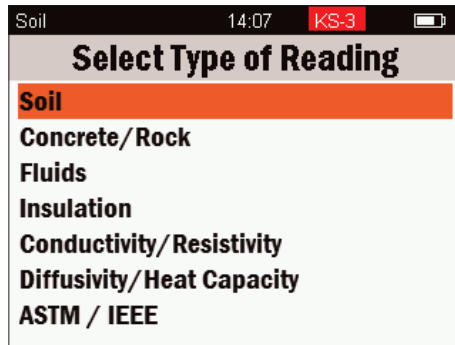

Figure 14 Select Type of Reading menu
The Select Type of Reading screen (Figure 14) will open. Within this menu, specialized configurations for specific materials and applications can be chosen (Table 3). Additional custom-configuration options for readings are also available.
- Navigate to the desired type of reading from the Select Type of Reading menu (Figure 14).